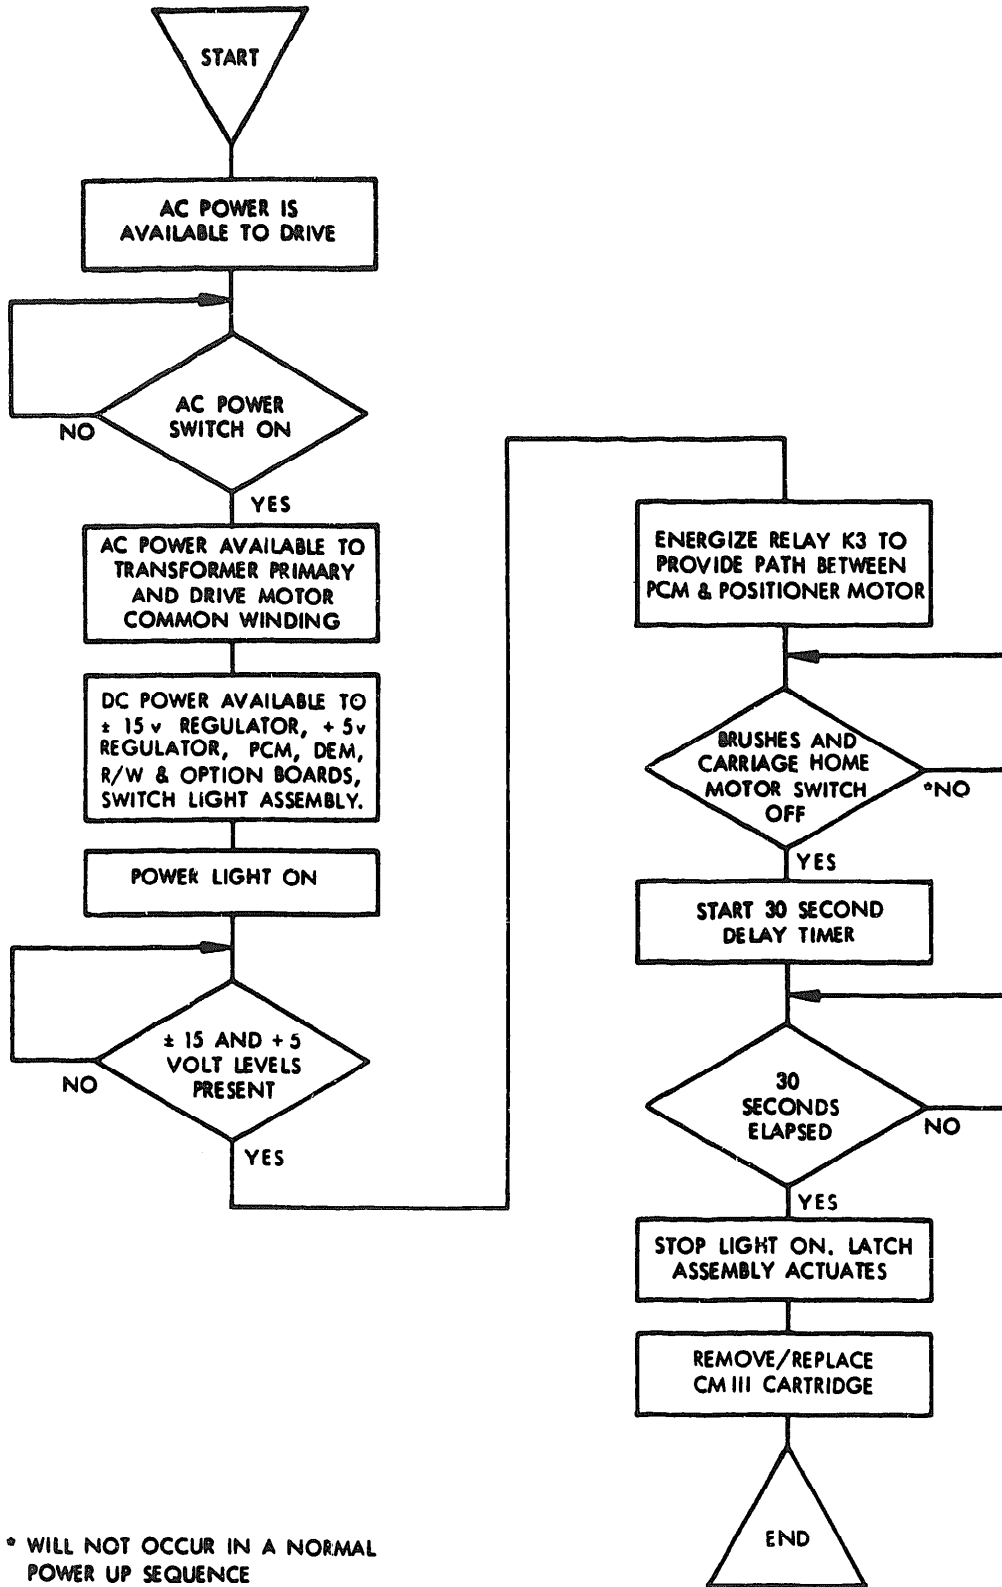

Figure 5-4. Optional Flow Chart Up/Install Cartridge
**Figures 5-4 and 5-5 indicate the sequence of events that take place when System Power is applied to the Disk Drive.**